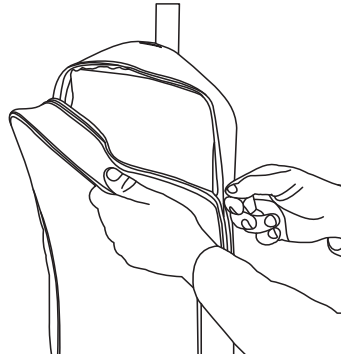

Fig. 8
1. Unzip outer cloth bag (Fig. 8).